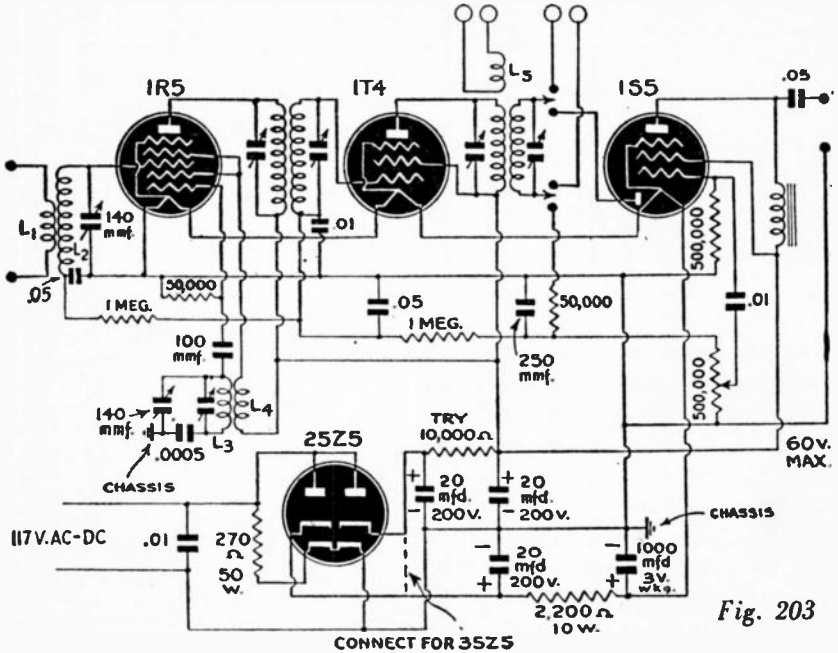

Fig. 203
A. The diagram you ask for is given in Fig. 203. As your choice of tubes is such that it is not clear whether you wish it to work as a radio-frequency converter or to work into the audio end of a receiver, both connections are shown. The switching system permits using the converter,